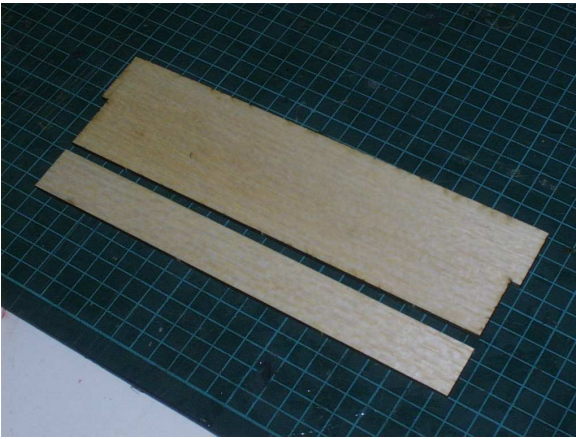

Figure 2.4: Two sections of the h-stab
- Join together the two parts of the horizontal stabilizer (stab and elevator) and use masking tape to hold them together on one side, the masking tape side will become the top side of the stab. (See figures 2.4 and 2.5)